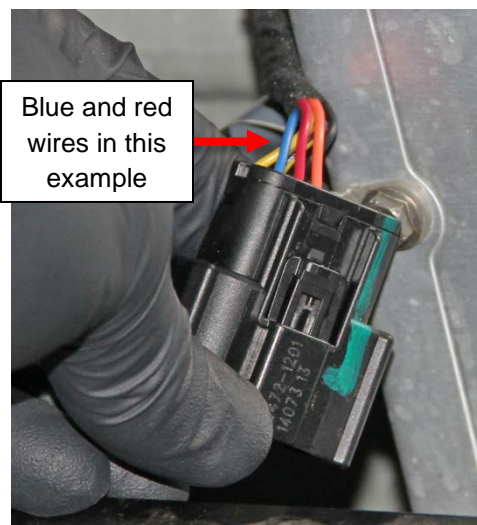
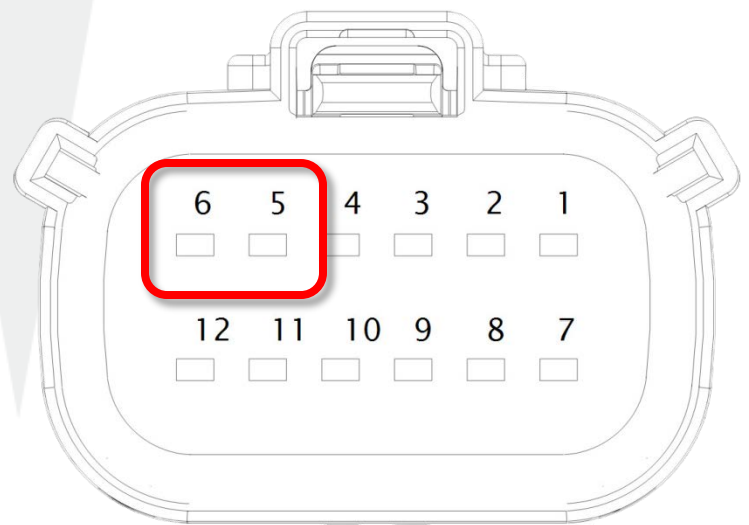

Figure 2
Figure 3
4. Identify the affected wires (Figure 2) attached to pins 5 and 6 (Figure 3) on the FJB logic connector.